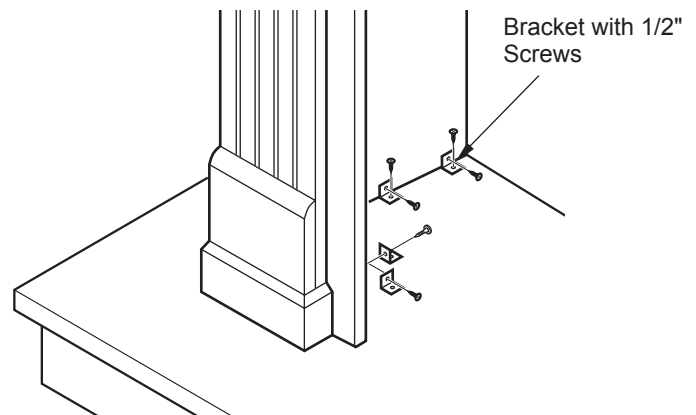

Figure 7 - Attaching Mantel Assembly to Mantel Base
3. Attach mantel to base using 8 brackets and 1/2" screws, 4 per leg assembly into threaded holes in base and leg assembly (see Figure 7).
2. Attach mantel to base using 6 brackets and 1/2" screws, 3 per leg assembly into threaded holes in base and leg assembly (see Figure 7, page 3).